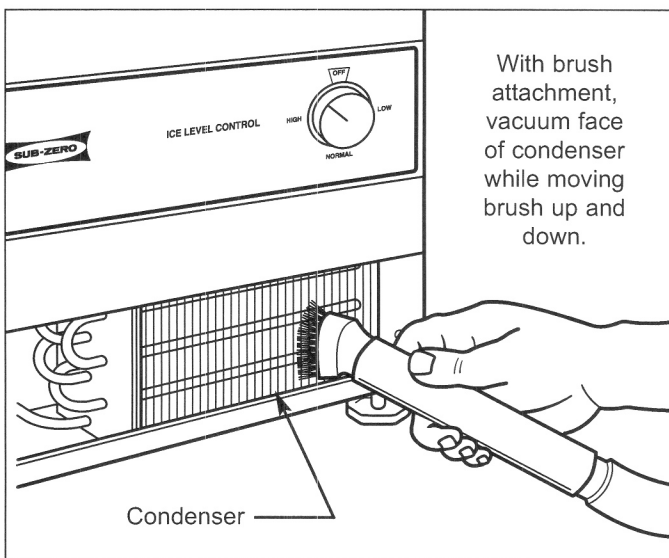

Figure 4-2. Condenser Cleaning
2. With a brush attachment, vacuum the face of the condenser off while moving the brush up and down. (See Figure 4-2)